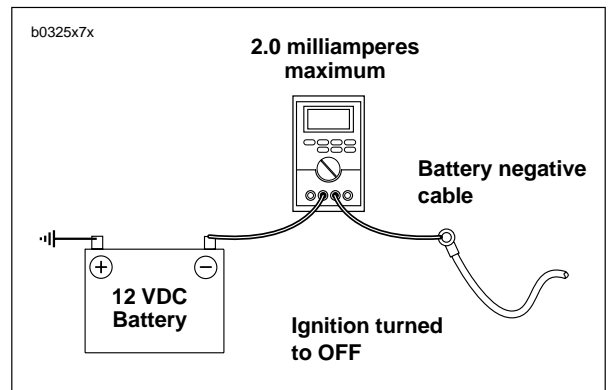

Figure 7-28. Milliampere Draw Test
1. See Figure 7-28. Connect ammeter between negative battery terminal and battery. With this arrangement, you will also pick up any regulator drain.